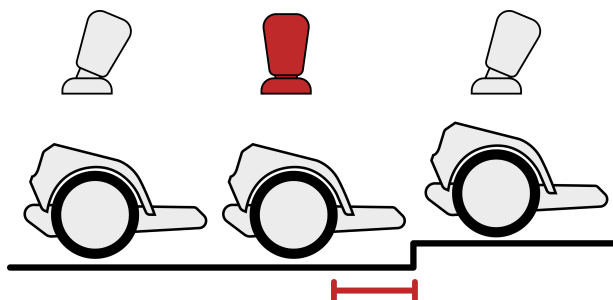

Figure 46. Driving up thresholds: Shortly before the main wheel reaches the threshold, the joystick should be briefly released (brought to the middle position).
3. Just before you reach the obstacle. release the joystick briefly. This raises the track tips slightly and increases the ground clearance, see [Figure 46, "Driving up thresholds: Shortly before the main wheel reaches the threshold, the joystick should be briefly released \(brought to the middle position\)."](#) [62]..